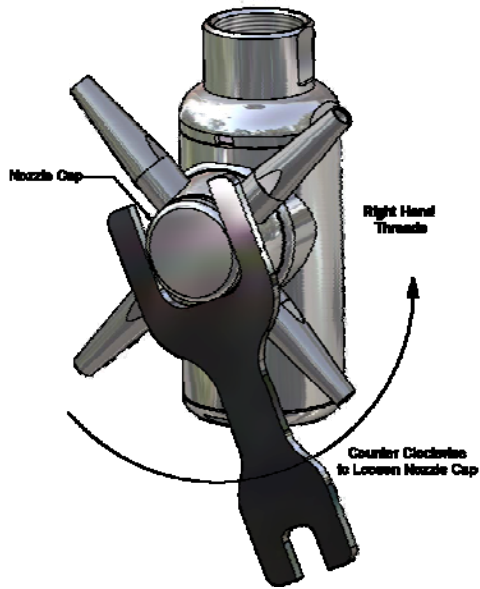

Figure 17
- a. If foreign matter has entered the machine and passed through the body, it may have lodged itself in the bevel gears; position 12.6 and 17. To check these areas refer to Figure 17 for instructions on removal of the hub. Take care to review the gearing and ensure that there is no damage that could prevent operation.